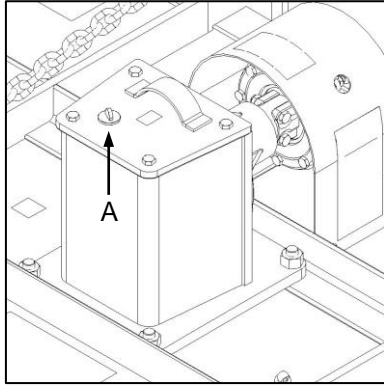

Fig. 4
- ✔ A dipstick (Fig. 4-A) is provided on the implement gearbox for this purpose. The oil level should fall within the area indicated on the dipstick.
- ✔ Die ratkas het 'n peilstok (Fig. 4-A) vir hierdie doel. Die olievak moet binne die perke val wat op die peilstok aangedui word.